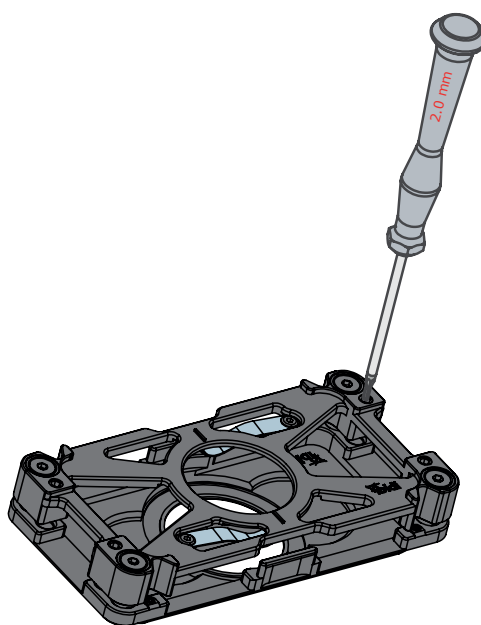

Figure 16: Use the 2.0 mm hex key to adjust the four screws to minimize the tilting of the upper part of the Holder.
The Dish Holder fits most of the commercially available 35 mm dishes (compatible dishes are listed in Section 5.5). The clip springs on the Holder compensate for slightly different heights. To minimize the tilting of the upper part, the gap can be adjusted with four screws (Figure 16). For this purpose, a screw driver (hex key 2.0 mm) is supplied.